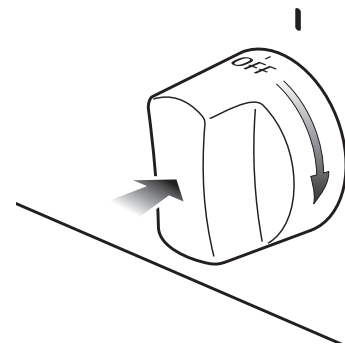

Fig. 3.4
2) Press the oven control knob right down and, keeping it pressed, turn clockwise (fig. 3.4) to the ★ **BROIL** position.